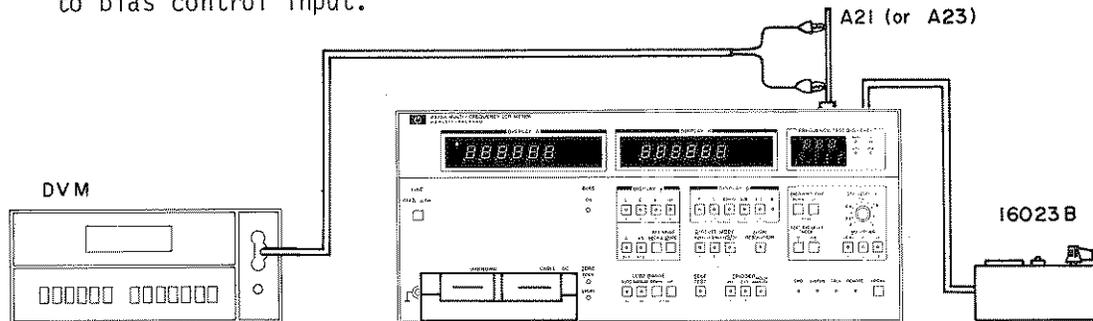

Figure 5-12. Internal DC Bias Supply Adjustment Setup.
2. Set 16023B DC Bias Controller thumbwheel switch to 0.00 and connect its 24 pin male connector to INT DC BIAS CONTROL Connector on the 4275A rear panel. See Figure 5-12.
2. Set 16023B DC Bias Controller thumbwheel switch to .000 and connect its 24 pin male connector to INT DC BIAS CONTROLLER connector on the 4275A rear panel. Refer to Figure 5-12 except for the difference in test pins and board number.